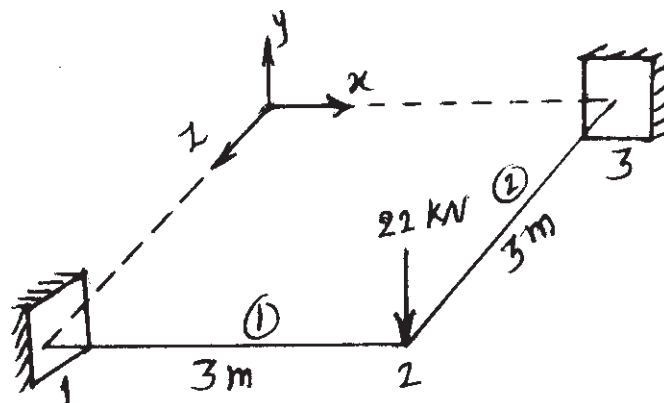

Fig. 3
- Q4) Analyse the grid as shown in fig. 3. The grid consists of two elements, is fixed at nodes 1 and 3, and is subjected to a downward vertical load of 22 kN. Take $E = 200 \text{ GPa}$, $G = 84 \text{ GPa}$, $I = 16.6 \times 10^{-5} \text{ m}^4$ and $J = 4.6 \times 10^{-5} \text{ m}^4$. [18]